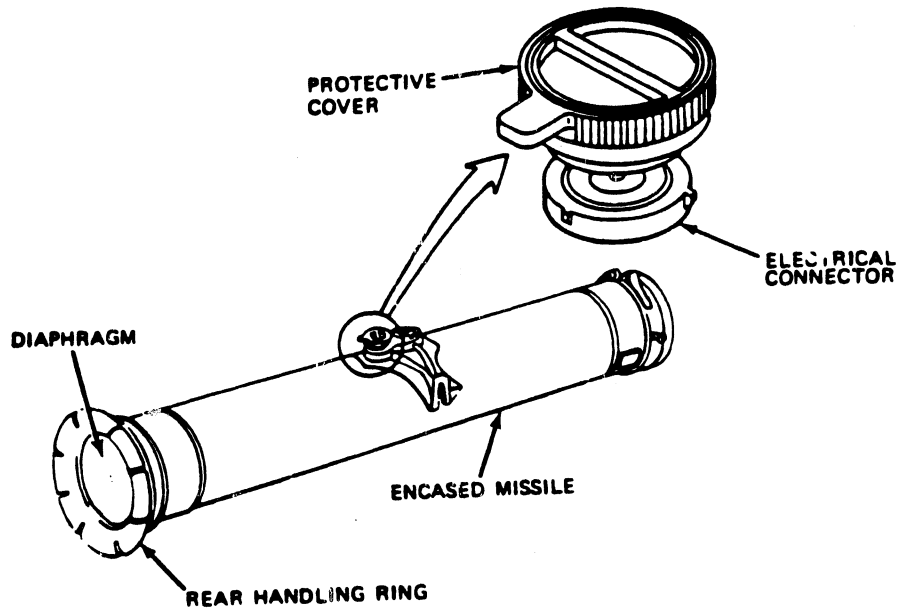

Fig 4-20. Protective cover/electrical connector.
Step 6. Turn the inside portion of the protective cover two complete turns counterclockwise and turn the protective cover counterclockwise and remove it from the electrical connector (fig 4-20).